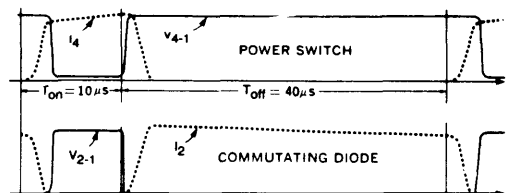

Figure 2. SM645, 646, 647 Switching Waveforms
- In switching an inductive load, the current will lead the voltage on turn-on and lag the voltage on turn-off (see Figure 2). Therefore, Voltage Delay Time (t_{DV}) $\cong t_{di} + t_{ri}$ and Current Storage Time (t_{SI}) $\cong t_{sv} + t_{fv}$.
- As can be seen from the switching waveforms shown in Figure 2, no reverse or forward recovery spike is generated by the commutating diode during switching! This reduces self-generated noise, since no current spike is fed through the switching regulator. It also improved efficiency and reliability, since the power switch only carries current during turn-on.